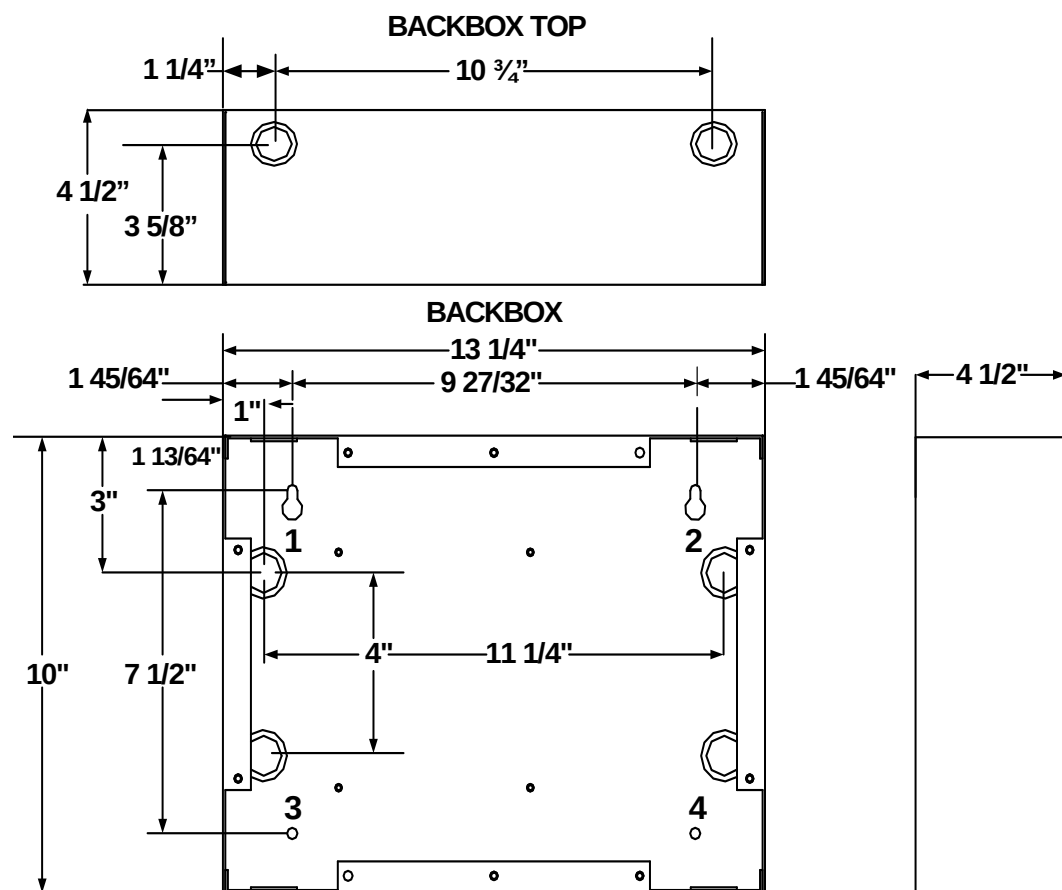

Figure 2.5.3.1.1 E3-BB-FLUSH-LCD, CAB A2, Remote Flush Annunciator Backbox Installation
4. Insert and secure two (2), #10 screws in the two-hole mounting pattern as shown in Locations 3 and 4 of Figure 2.5.3.1.1.
1. Mount the keyswitch to the E3BB-FLUSH-LCD Flush Mount Front Cover and secure with one (1), nut (3/4"-24 THD Hex) as shown in Location 1 of Figure 2.5.3.2.1.